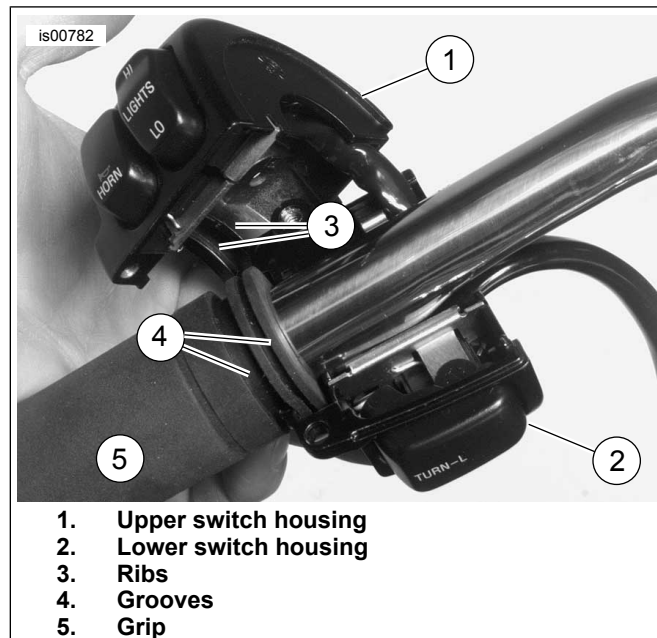

Figure 14. Left Handlebar Switch Housings
3. See Figure 14. Place upper (1) and lower (2) switch housings on handlebar. Be sure that ribs (3) on outboard side of both switch housings fit in grooves (4) molded into grip (5).